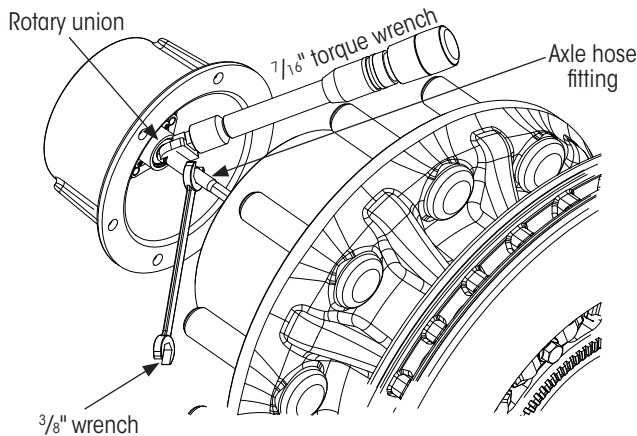

Figure 19: Hubcap to axle hose connection
1. Gently pull just enough of the axle hose from the spindle center to connect it to the rotary union inside of the hubcap (Figure 19).
4. **Using** a 3/8-inch wrench to prevent rotation of the axle hose fitting, (Figure 19) **tighten** the rotary union shaft to 50±5 in. lbs. (5.7±0.6 Nm) of torque.